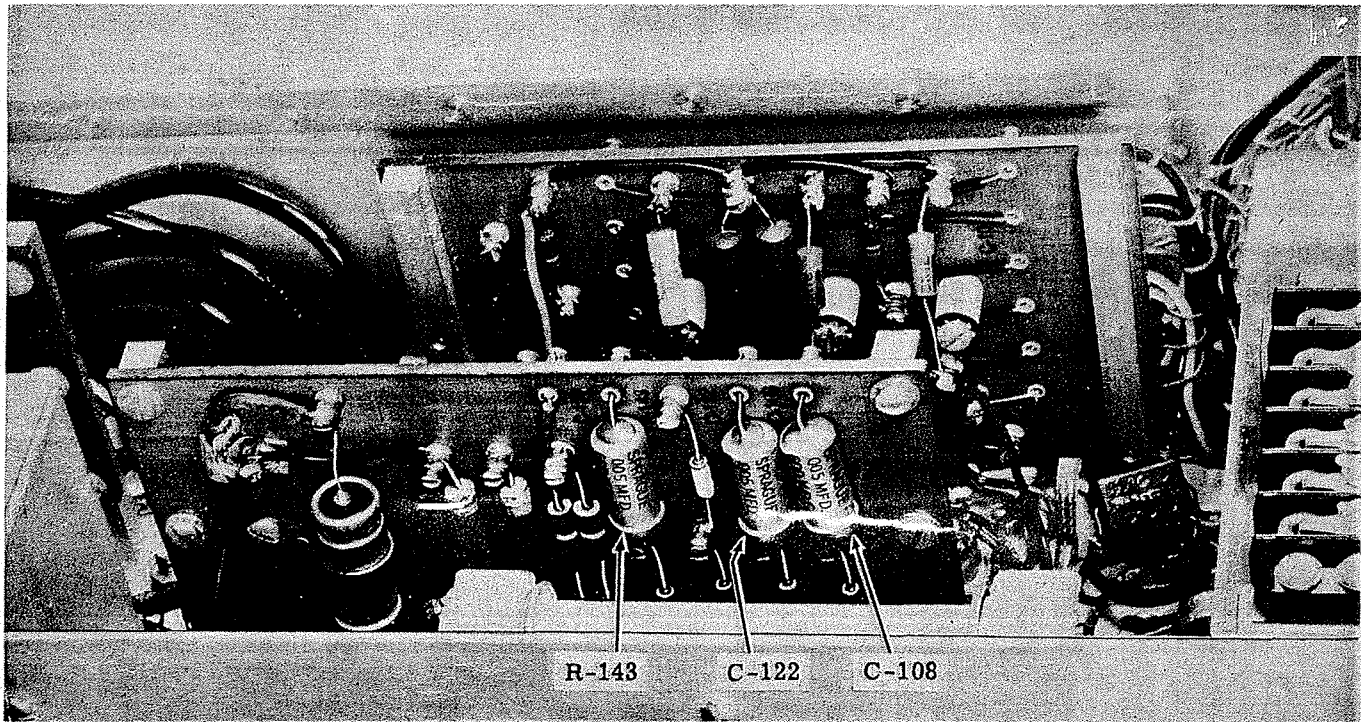

Figure 6-18I. Radar Test Equipment AN/UPM-1—Showing Resistor R-143 and Capacitors C-108 and C-122 for Modification
(6) Remove resistor R-143 (22,000 ohms) and replace it with a 33,000 ohm resistor, Signal Corps Stock Number 3RC20BF333K. (See figs. 6-18I and 6-18J.)
(7) Relabel the Repetition Rate Control, Delay Control, and Switch as follows: